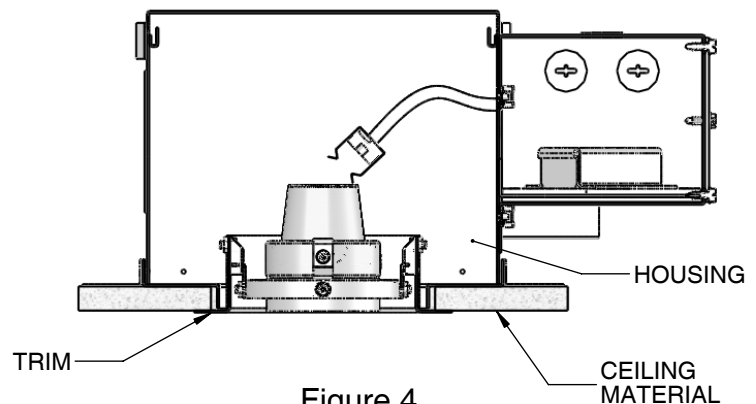

Figure 4
9. A clean, square hole in the CEILING MATERIAL must be cut. Install the ceiling material below housing as seen in Fig 4.
10. Replace the TRIM into the HOUSING by connecting the TORSION SPRINGS to the HOUSING. Push the TRIM into the HOUSING until flush with the CEILING MATERIAL as seen in Fig 4.